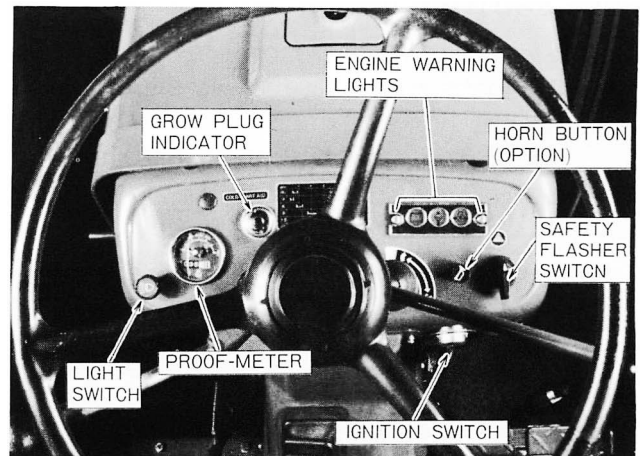

Figure 4 — Instrument Panel
The light switch, shown in Figure 4, is a push-pull type switch. Its positions are:
The starter switch is shown in Figure 4. Turning the key to the left will activate the cold-start aid. Turning the key to the right to the "on" position will activate the warning lights and instruments. Turning the key further right to the "start" position will start the engine. Upon release, the key will spring return to the "on" position.
The engine temperature, oil pressure and charge indicator warning lights are located as shown in Figure 4. When the starter switch is turned "on" the oil pressure and charge lights come on. After the engine has been started, the lights should go out within a few seconds. If they do not go out:
The Proof-Meter is located on the left side of the instrument panel, Figure 4. The Proof-Meter indicates:
- Engine revolutions per minute are indicated on a scale as shown in Figure 4. Use the engine revolutions per minute scale when operating PTO-driven equipment. PTO-driven equipment must be operated at an engine speed not to exceed 2422 rpm as shown by the yellow line on the rpm scale. Additional information on PTO operation can be found on page 15. Ground speeds are indicated on a decal attached to the instrument panel. The decal shows ground speeds for 3rd, 6th, 9th, 12th and R² gears, with engine speeds from 1500-2800 rpm. Additional ground speed information can be found on page 50.